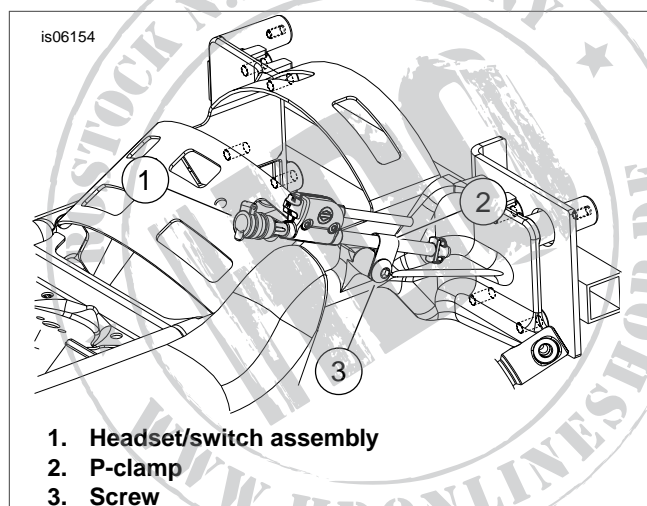

Figure 4. Installation on Trikes Without Tour-Pak
See Figure 4. The headset/switch assembly (1) will be secured to the frame at the location shown using the 1/2-13 screw (3) and the larger P-clamp (2) from the kit.